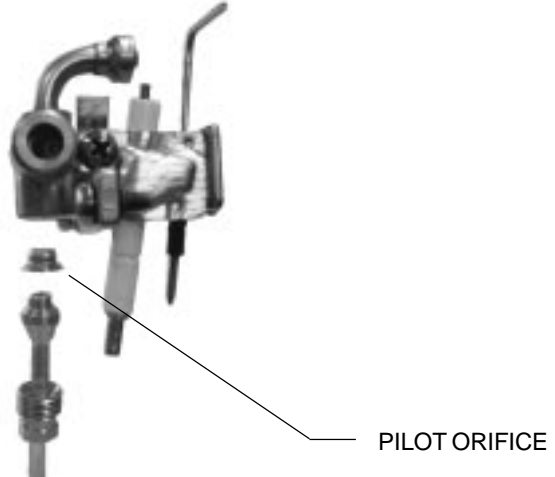

**Fig. 10 - Characteristic Pilot Flame**
**Pilot Flame:** The pilot flame should burn with a clean, sharp, blue flame and should resemble the diagram in Fig. 10. If the flame is soft and yellow, the pilot burner orifice may need to be cleaned or replaced. The pilot flame should be approximately 2 inches long, extending past the flame sensor. If the flame is too small, it will not reach the flame sensor and the burners will not come on.
- 2. Confirm the flame sensor is in its proper position and clean, lightly wipe clean if dirty.** See Fig. 10